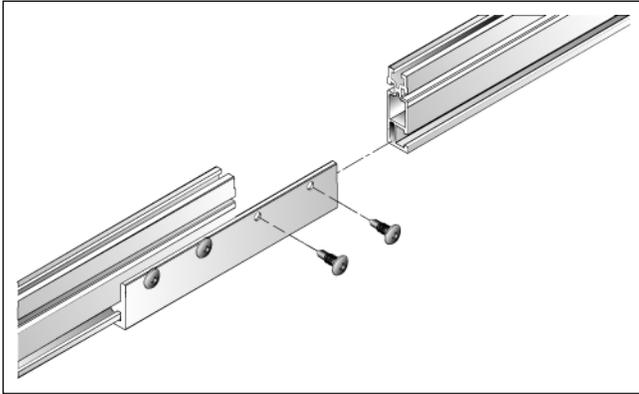

Figure 11. Splice bars slide into the footing bolt slots of SolarMount rail sections.
**Installing Splices.** If your installation uses SolarMount splice bars, attach the rails together (Fig. 11) before mounting the rails to the footings. Use splice bars only with flush installations or those that use low-profile tilt legs.